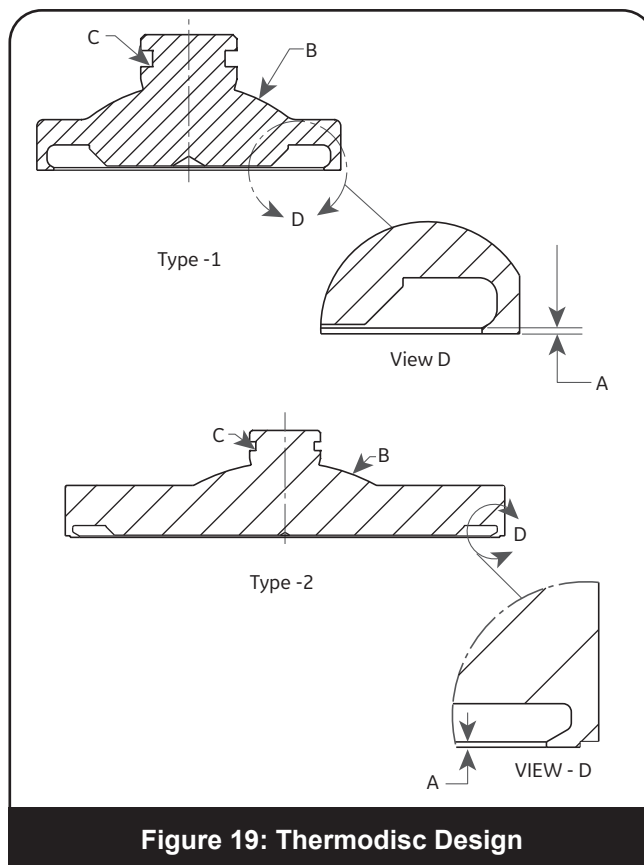

Figure 19: Thermodisc Design
8. Thermodisc Metal Seated Disc: This disc (Figure 19) cannot be machined. It can be lapped as long as the A min. dimension has been maintained. If lapping does not fix damaged area, part must be discarded.
- a. Seat defects and damage cannot be lapped out without reducing the “A” dimension in Figure 19 and listed in Table 6. If the dimension cannot be measured, replace the Thermodisc.